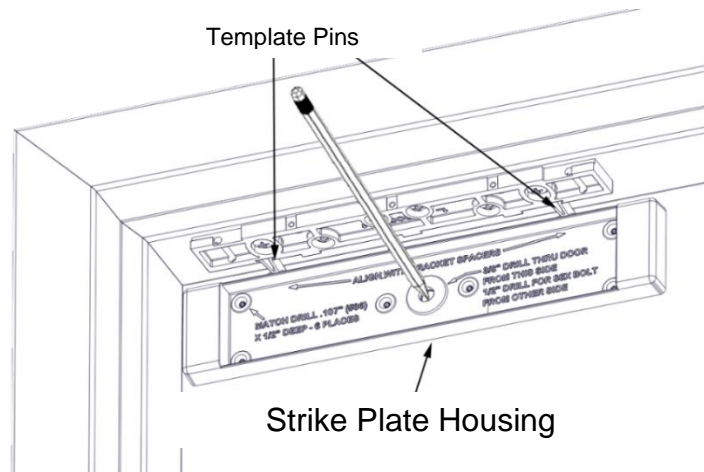

Figure 11. Marking the Strike Plate Hole Locations
7. MARK the strike plate housing hole locations (see Figure 11, “Marking the Strike Plate Hole Locations”).